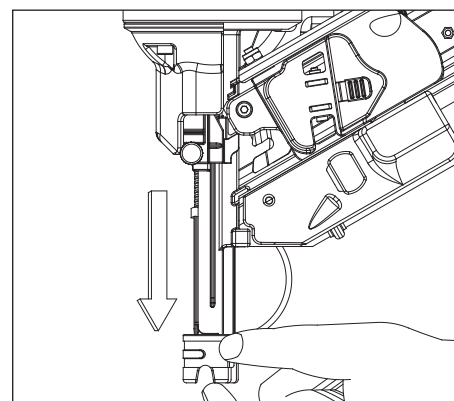

Figure 11 - Nail Depth Adjust
3. Move WCE back and forth to the extent desired. Move the WCE toward the tool to increase nail depth. Move WCE away from tool to reduce nail depth. *See Figure 11.*